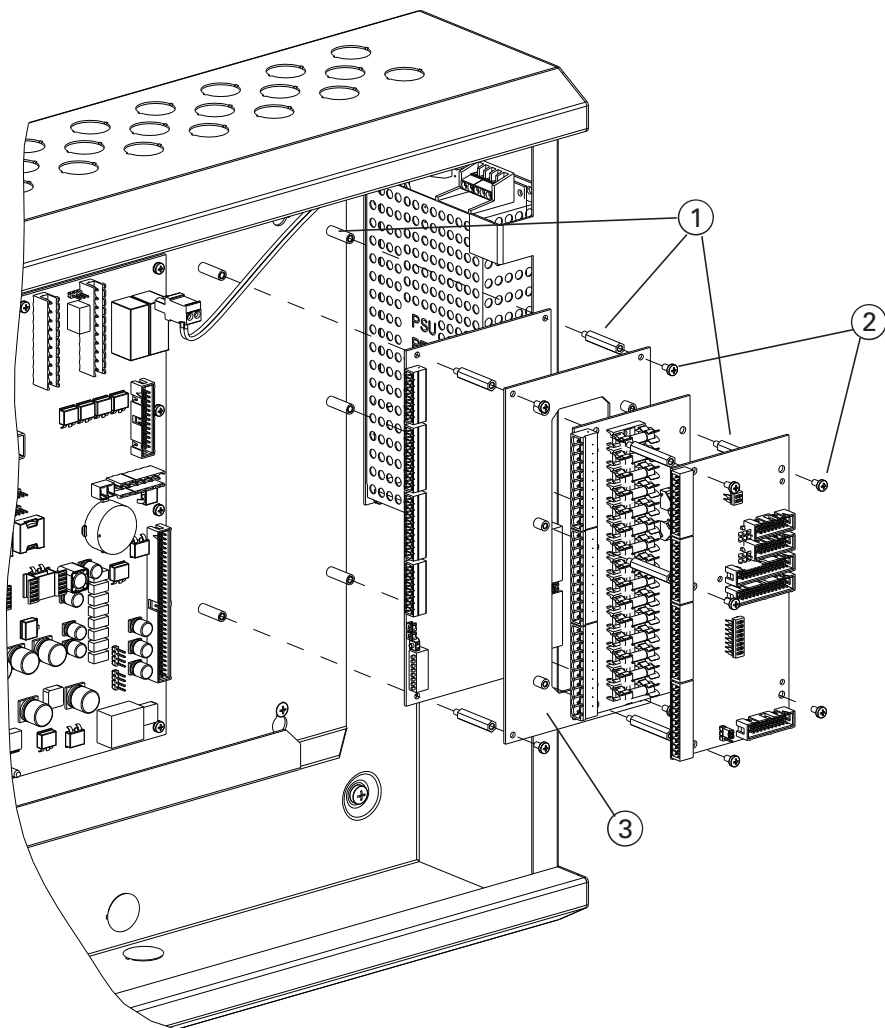

Fig. 28: Mounting Boards on a FC702S Panel
three of these boards can be fitted. Ensure that you fit the larger boards (such as the PNI800) before small boards (IOB and FB800). Refer to Fig. 28 and complete these steps:
- 3 Put the first board on top of the pillars provided (item 1 in Fig. 28). Secure the board using washers and screws if this is the only board being used, or a pillar, if you are inserting more boards. If fitting a PNI800, connect the 50way connector closest to the FC-FI to the connector on the PNI800 PCB. If you fit a second board of this type, use the next 50way connector for this board.
- 4 If you are using one or more small boards (for example, the IOB800 or FB800), use the adapter plate supplied (item 3 in Fig. 28). Screw the adapter plate into the last big board in the sequence, or directly onto the back wall of the housing panel if there are no larger boards. Use the washers and screws provided.